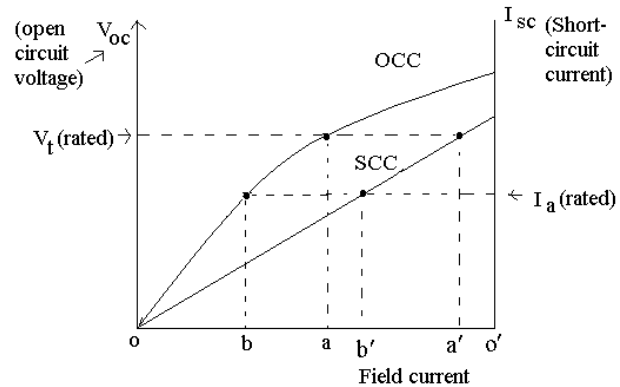

Fig.2
Q.53 The short-circuit ratio of a typical synchronous machine is obtained from the OCC and SCC curves of Fig.2 as
- (A) $\frac{oa}{ob}$